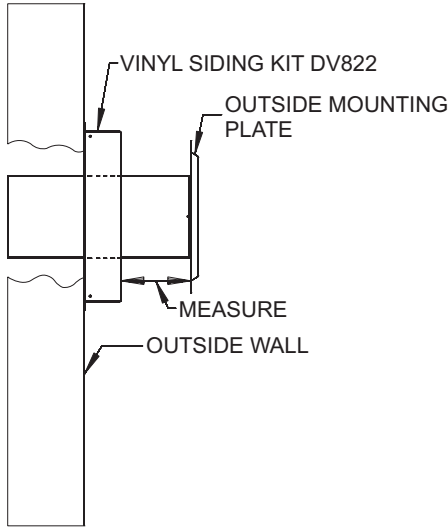

Figure 46
5. Attach the inlet tube to the outside mounting plate. Align tinnerman clips on the tabs of the air inlet tube to the holes on outside mounting plate, and fix with (2) #10 x 1/2" screws.
6. With the vinyl siding kit installed to wall (if necessary), insert the 6 5/8" (168mm) diameter tube with outside mounting plate attached through hole in wall. Connect to collar on fireplace or rigid vent system. Measure between wall or vent cap extension and outside mounting plate (**Figures 46 and 47**).
8. Attach the 4" (102mm) diameter flue outlet tube onto the rigid venting system or directly to fireplace. Ensure the 4" (102mm) diameter flue outlet tube is placed as far as possible onto the rigid venting system. Mark the 4" (102mm) diameter flue outlet tube 2 1/2" (64mm) beyond the vinyl siding kit or wall. See **Figure 46**. Remove the 4" (102mm) diameter flue outlet tube from rigid venting system. When installing directly to fireplace, tape gasket needs to be used.
10. From outside: Push the 6 5/8" (168mm) diameter inlet tube/ mounting plate onto end of rigid venting system to correct position. Fasten the outside mounting plate to the vinyl siding kit or wall with (4) 10 x 1 1/2" screws. (Ensure upward slope).
11. From inside: Attach the inlet tube to the collar on the back of the fireplace (or the rigid venting system) using (3) self tapping screws.